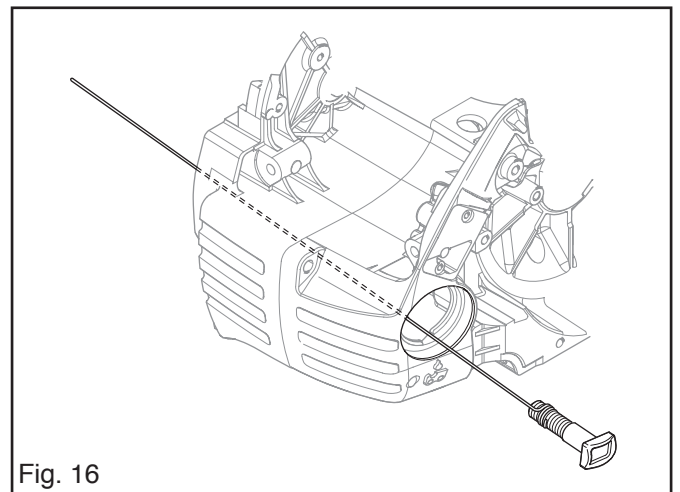

Fig. 16
4. Fix a piece of steel wire on the end of the new bolt, and pull it through the oil tank and out through the bolt hole in the crankcase. See fig. 16.